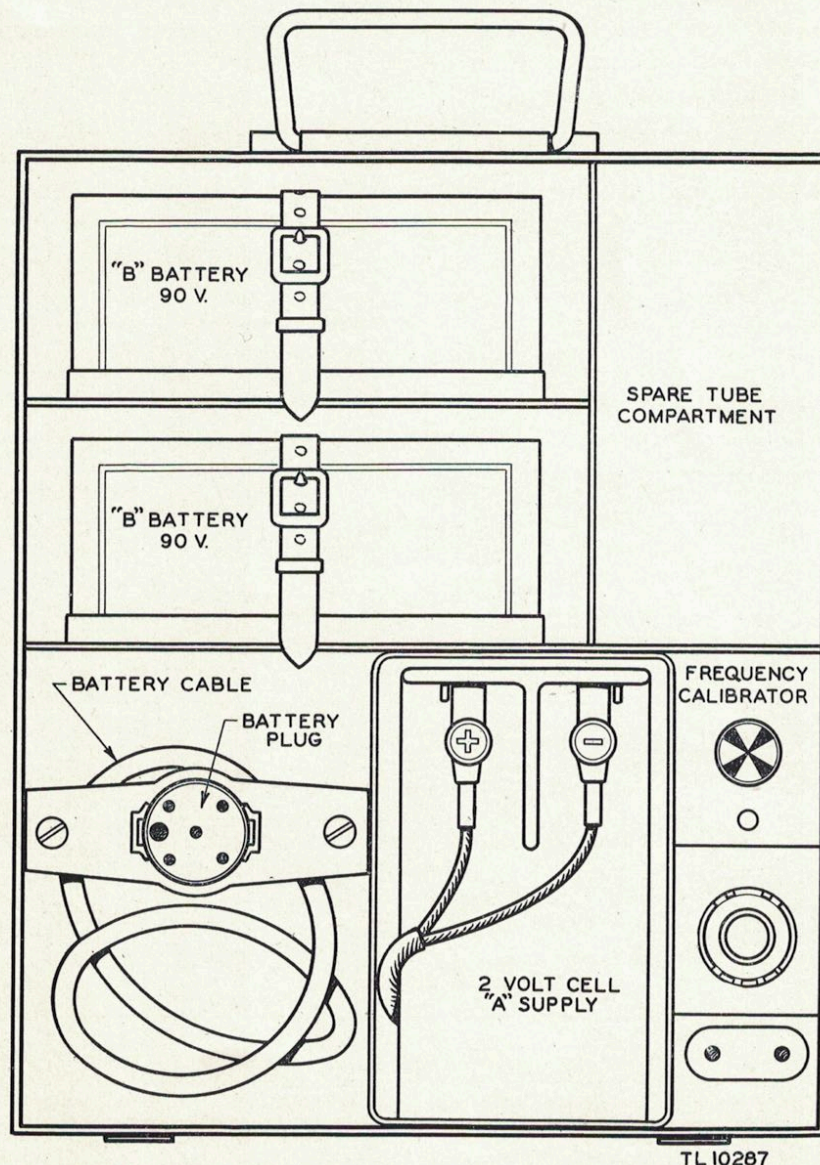

Figure 3. Placement of equipment in accessories case of German radio set
a. General. If the proper German batteries are available, they should be connected in the accessories case as shown in figure 2 ①. The storage cell, German type 2B38, will fit into a compartment provided. Each of the two **Anode Batteries** (B batteries) also fits into a compartment of the case. Figure 3 shows compartments and placement of equipment in the accessories case.
6. CALIBRATION. A crystal controlled frequency calibrator is located in the lower right side of the accessories case (fig. 3). A power cable and plug is provided for connection to the batteries. The calibrator is placed in operation by pressing the push-button switch marked **Drücken** (press). Plate current flow is indicated by the appearance of white sectors in the instrument directly above the switch.
a. Calibration of the Receiver. (1) Plug the headset into either of the jacks marked **Fernhörer** (headphones) on the front panel.